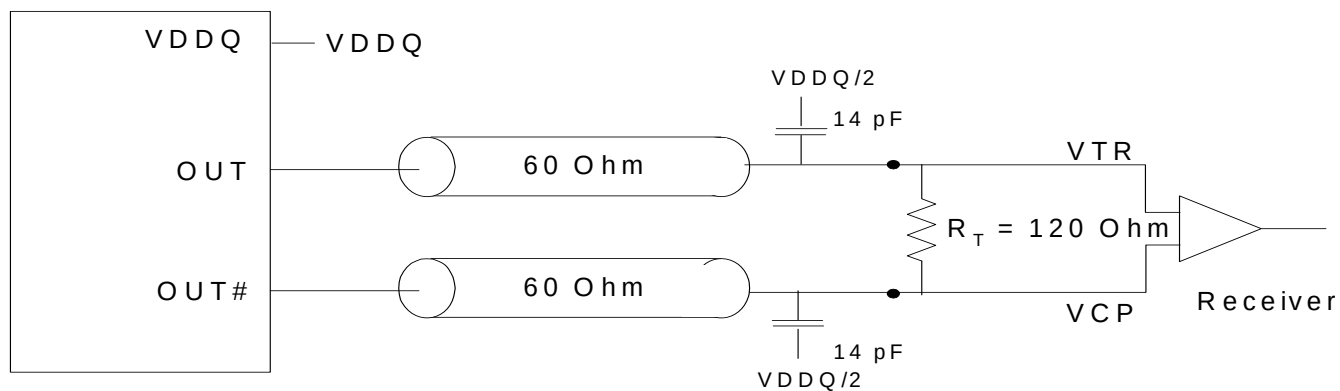

Figure 6. Differential Signal Using Direct Termination Resistor
- Differential input signal voltage specifies the differential voltage $V_{TR}-V_{CPI}$ required for switching, where V_{TR} is the true input level and V_{CPI} is the complementary input level. See Figure 6.
- For load conditions see Figure 6.
- The value of V_{OC} is expected to be $(V_{TR} + V_{CPI})/2$. In case of each clock directly terminated by a 120 Ω resistor. See Figure 6.
- All outputs switching load with 14 pF in 60 Ω environment. See Figure 6.